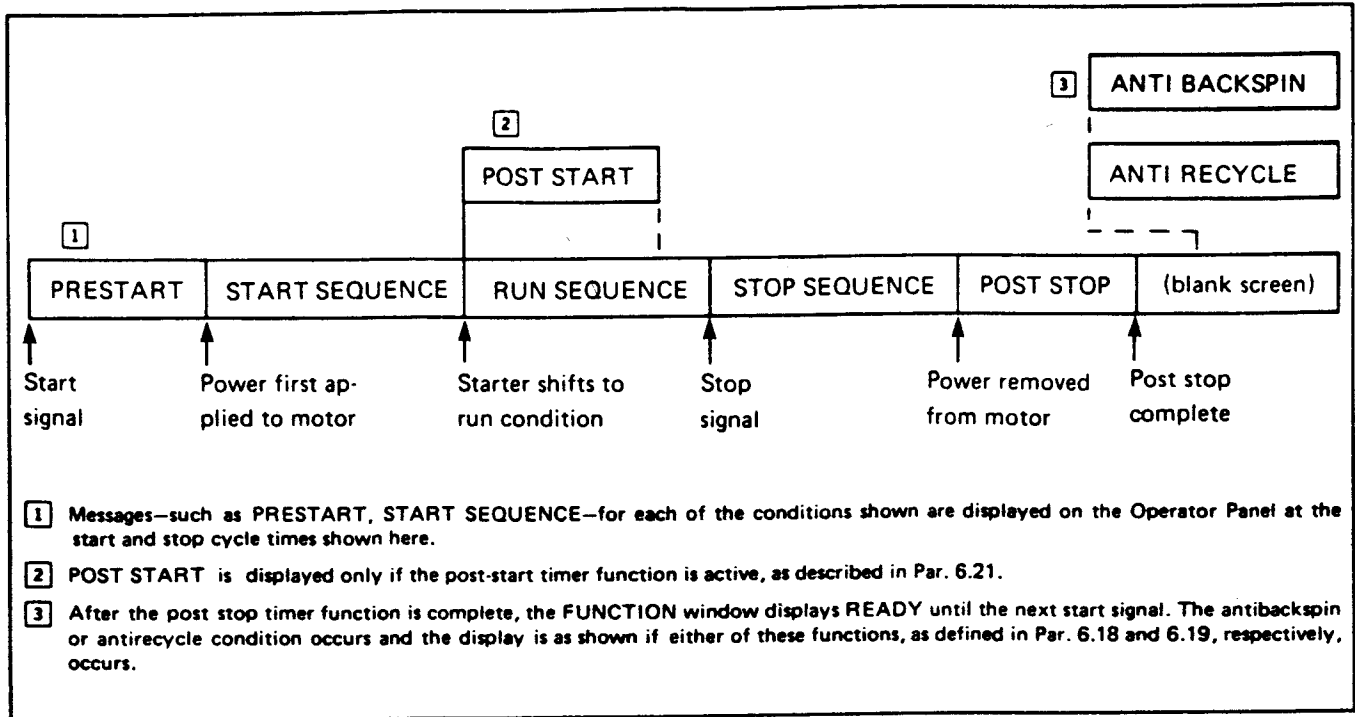

Figure 7.1 — Display/Run Sequence Relations
7.1.1 Normal Operational Reporting — The FUNCTION window of the Operator Panel provides a reporting function that occurs during the normal operation of the IQ-2000. Commands such as START SEQUENCE and POST STOP are used to report the various sequences involved with starting, running and stopping the motor. Figure 7.1 shows the relationship among the displays and the various operations of the IQ-2000.